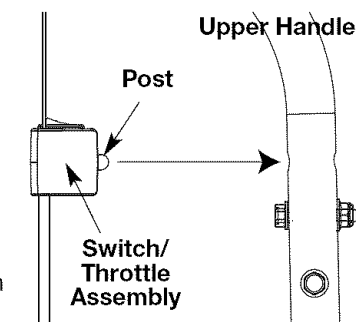

Fig. 3
9. Align the switch/ throttle control assembly post with the hole that can be found on the side of the upper handle, (Fig. 3).